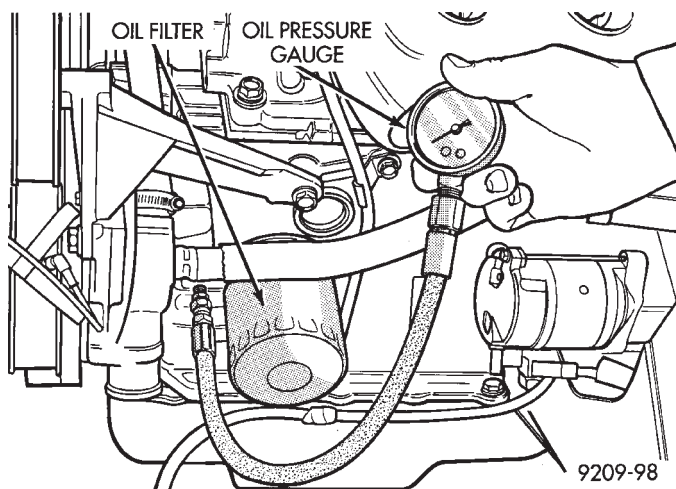

Fig. 4 Checking Oil Pump Pressure
(1) Remove pressure sending unit and install oil pressure gauge (Fig. 4).